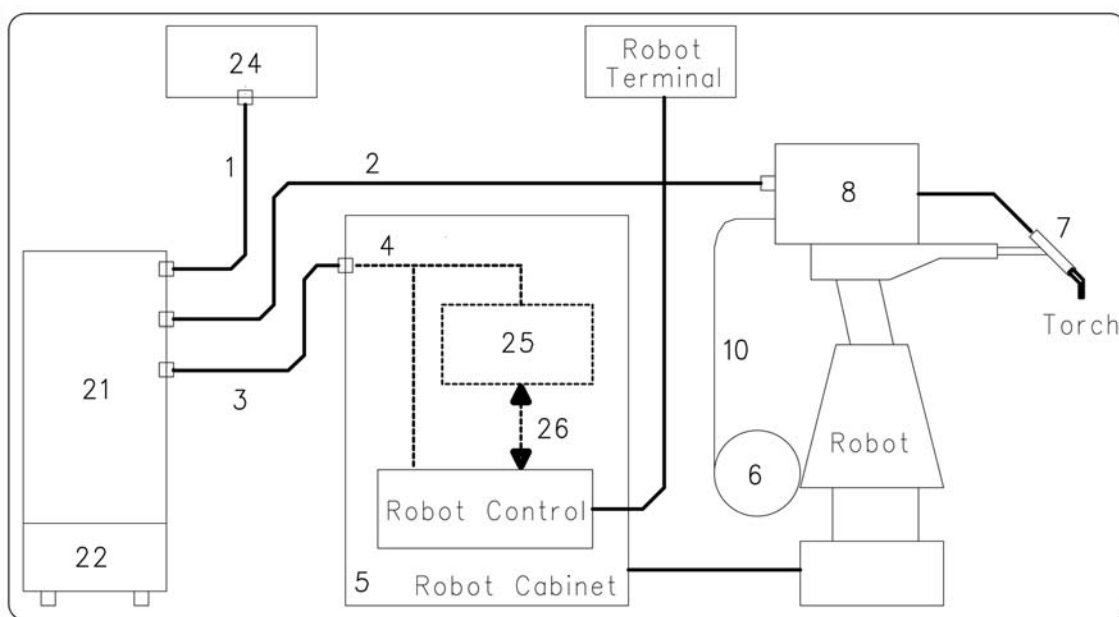

fig. 2
It comprises a Power Source, equipped with Cooling Unit a Wire Feeder a Control Panel and, if necessary, a Robot Interface (see fig. 2).
NOTE: If the Robot Control (fig. 2) has the CANopen communication line type, the interface (25) and the cable (26) are not necessary.
3.2 Power Source installation (fig. 2).